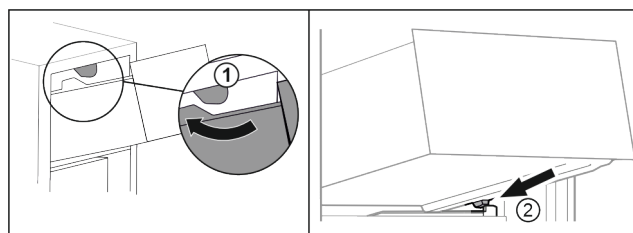

Fig. 23
- ▶ Guide drawer around the upper stoppers. Fig. 23 (1)
- ▶ Place drawer at an angle behind the lower stoppers on the molded rib. Fig. 23 (2)